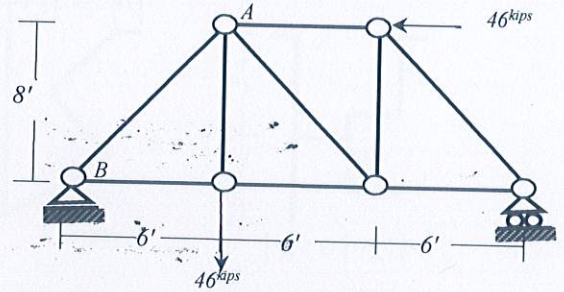

**Fig. 5**
7. Draw (i) qualitative deflected shape and (ii) bending moment diagram for the structure shown in **Fig. 5**.